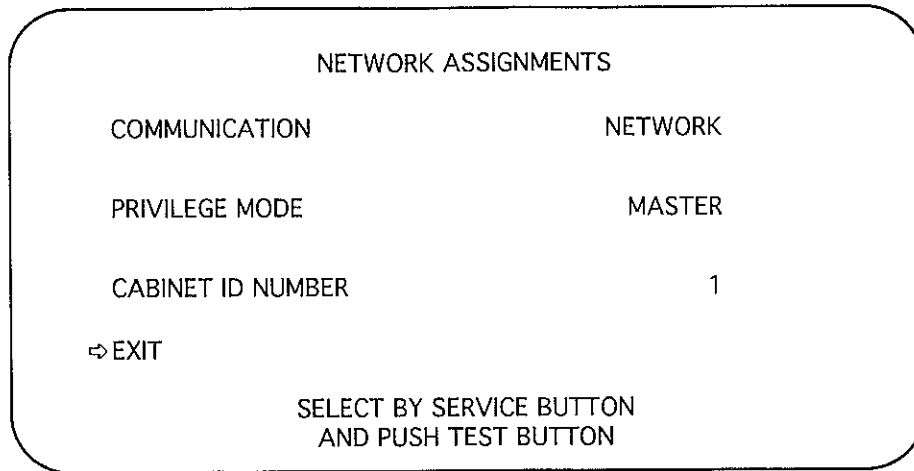

FIGURE 18: NETWORK ASSIGNMENTS SCREEN – LINKED MASTER CABINET
2. Bring the cursor ⇔ to COMMUNICATION and press the Test Button to select NETWORK (see Figure 18).